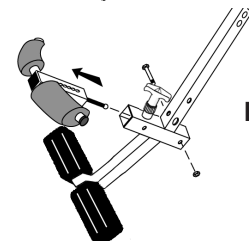

Figure 2
- Remove the bolt that holds the retainer spring and security cable attached to the front ankle clamp. (See Figure 2) **Keep the bolt and nut for use in Step Three.**